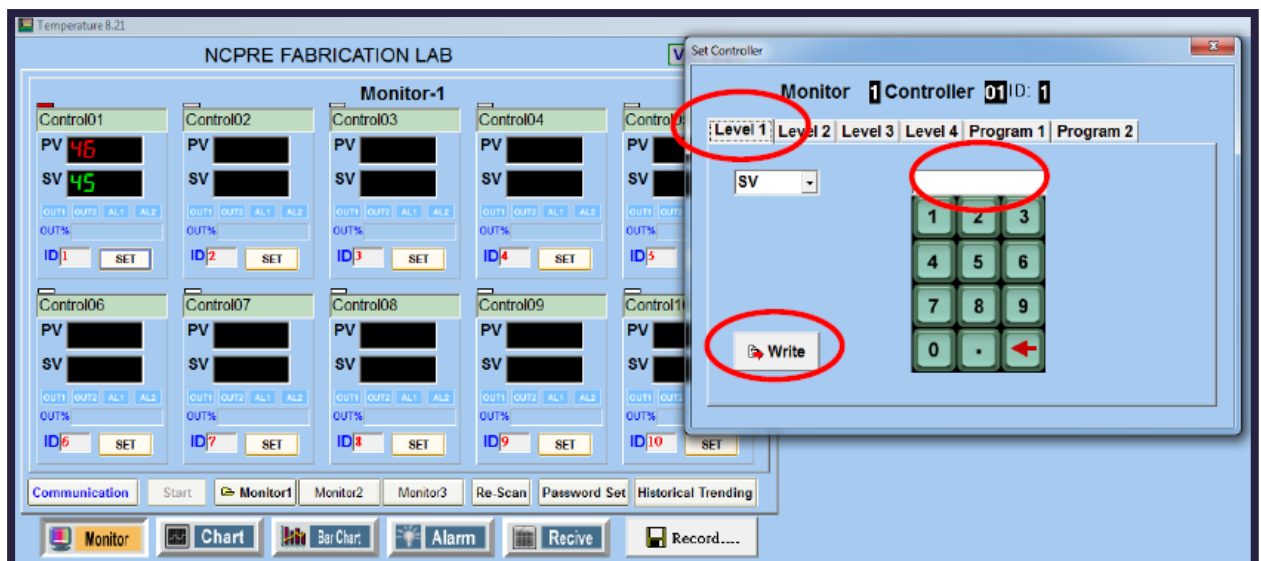

Figure. 21
11. "Set Controller" pop up will appear after clicking on SET. To directly run the furnace to the desired temperature put the SV in Level 1 by clicking on the digits. Once the desired value appeared in blank field, then click on "Write" (Figure. 21).